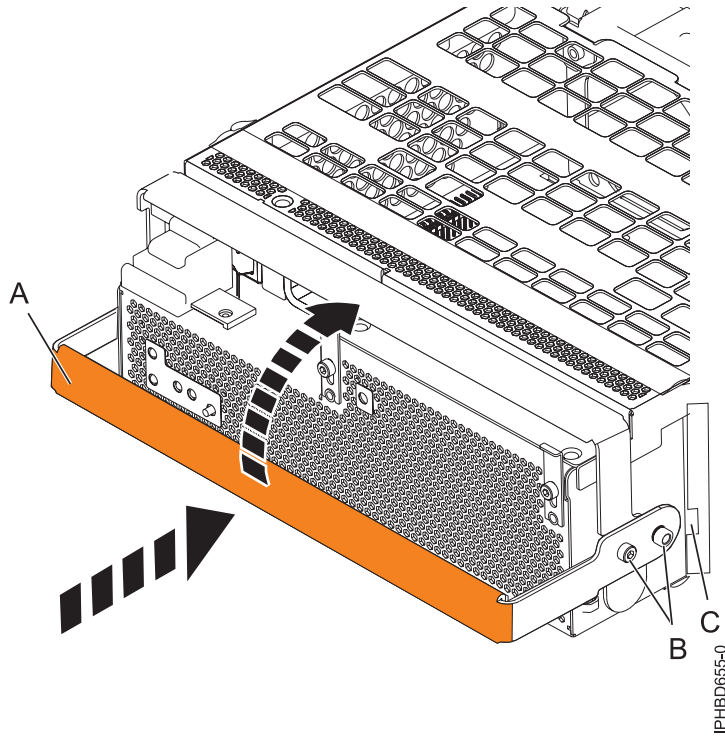

Figure 62. Replacing a power supply
10. To replace the power supply, with the locking handle (A) in the open position, push the power supply into the expansion unit as shown in Figure 62 on page 82.
11. Close the locking handle (A) until the power supply locks into position.